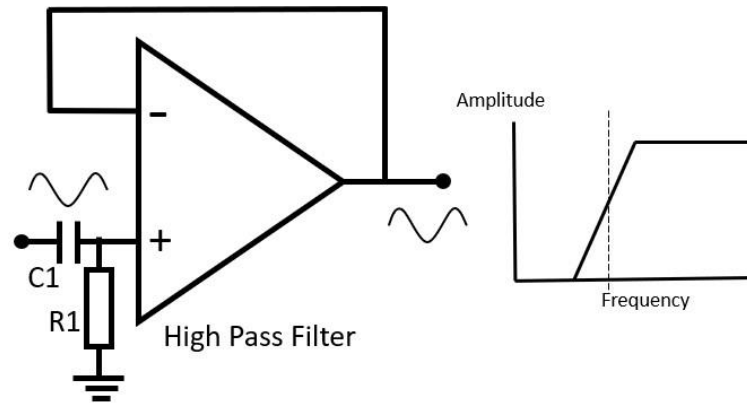

Figure 9: High Pass Filter.
8. THE High pass filter is a unity gain amplifier passing the frequencies higher than that determined by  $R_1$  and  $C_1$  (Figure 9).